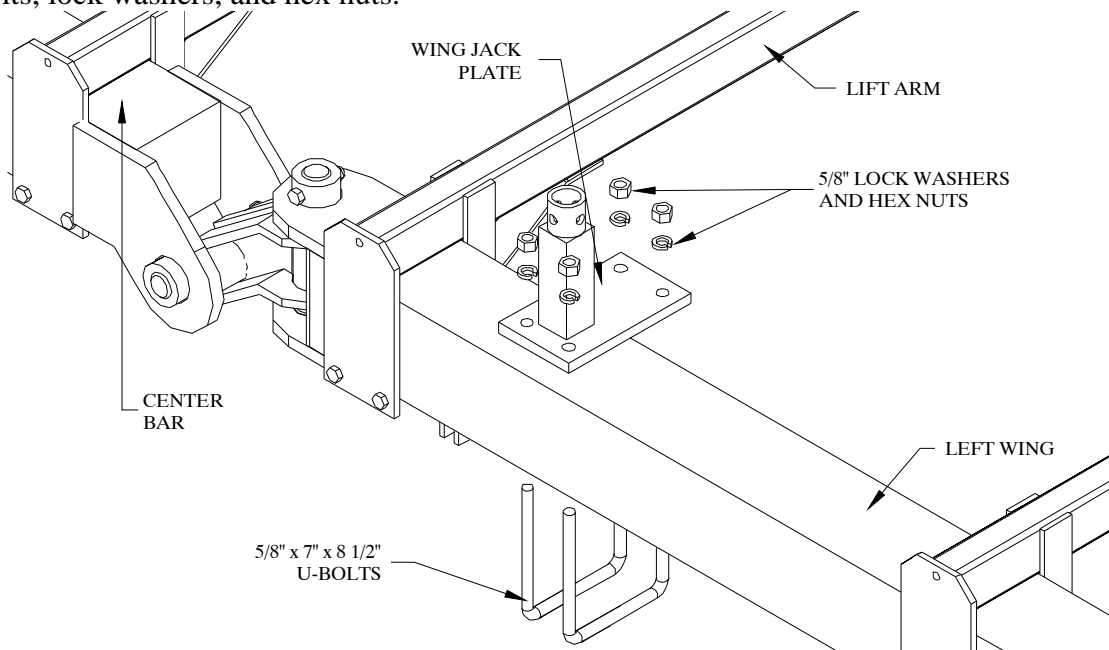

Figure 23
1. Attach the wing jack plates to the wing tubes. Refer to Figure 23. Use 5/8" x 7" x 8 1/2" U-bolts, lock washers, and hex nuts.